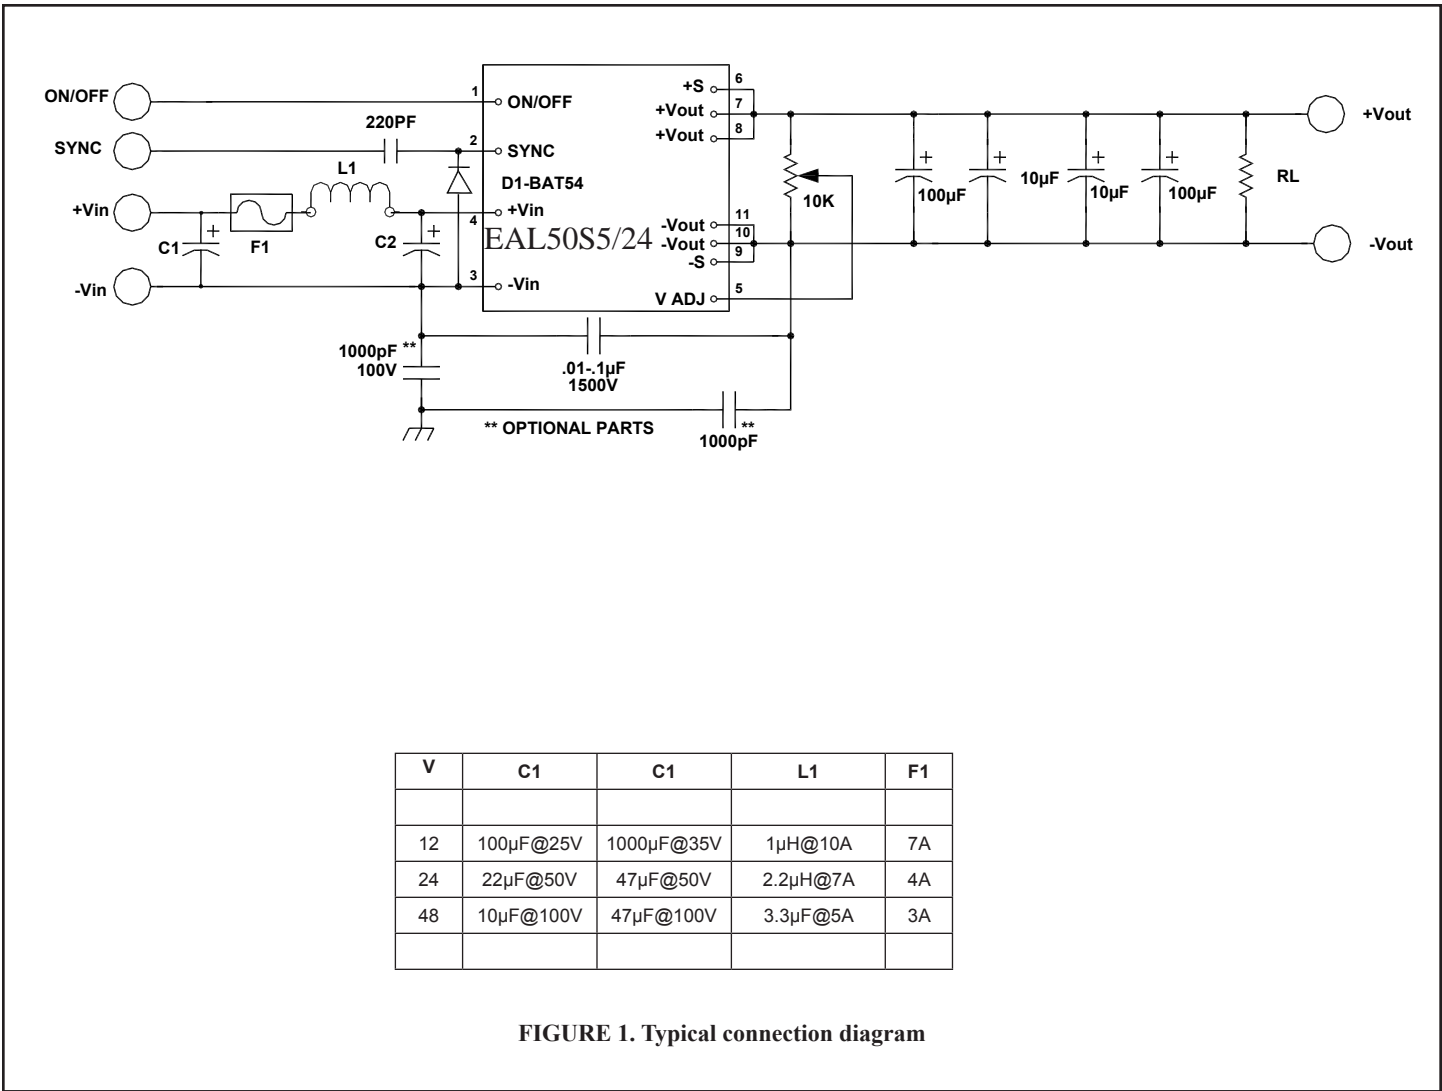

FIGURE 1. Typical connection diagram
- 1: Measured with C1=50µF (See Fig 1)
5. Output ripple is measured with two tantalum 220µF@10V and 10µF@25V ceramics in parallel on the output as shown in Figure 1.
a signal Schotky diode with the cathode connected to the SYNC pin and the anode to  $-V_{IN}$  (See Figure 1). AC coupling reduces the power required for driving multiple converters and allows for continuous operation of the other synchronized converters in case the driving signal is missing or a short circuit develops at one of the sync inputs.